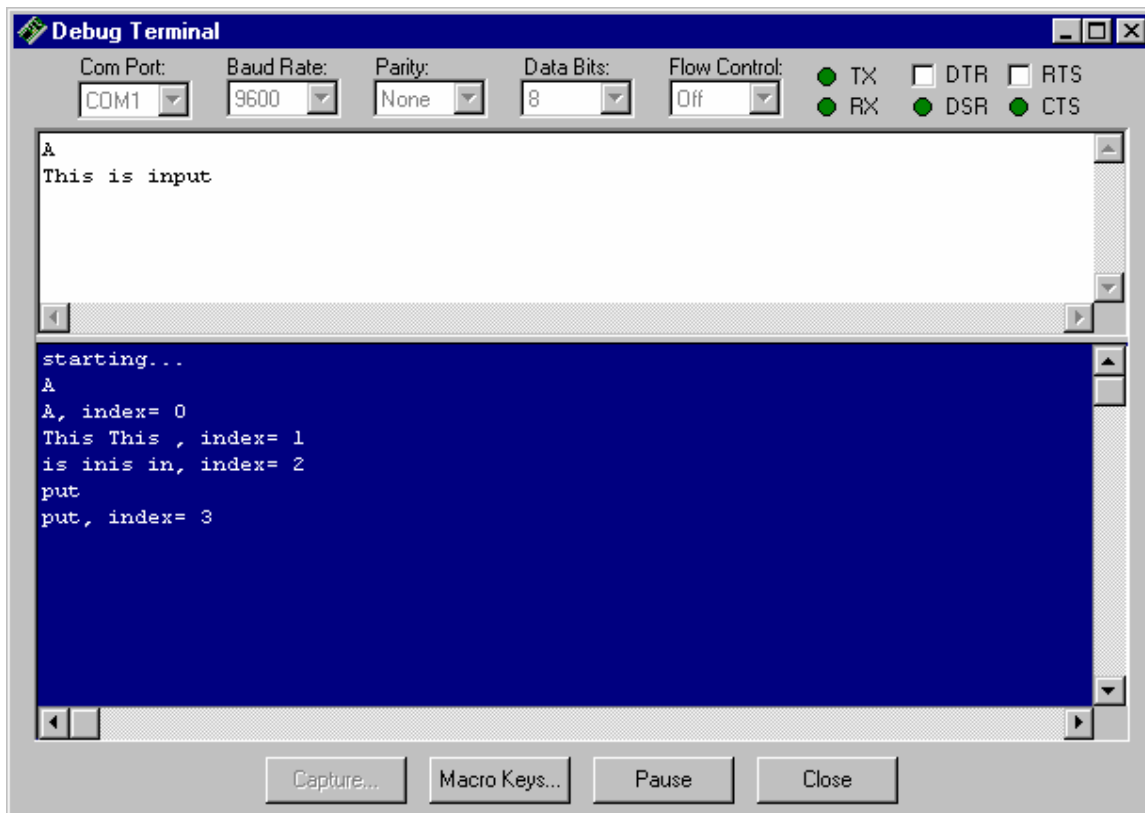

Figure 2: Debug Screen with LabVIEWSerial.bs2 running
To use the software, first download it into your BSII then access the debug screen. To transmit characters simulating a command, click on the division between the upper white pane and the lower blue pane of your debug window to expand the white “transmit” upper half of your debug window until it has both a “transmit” and “receive” pane are approximately the same size (Figure 2).
In Figure 2, the string “This is input<CR>” was typed with the result shown. The BSII received the string in (5) character groups and output each group through the SEROUT command in the program with the result shown. Remember the “space” character counts as one character in a group. The third line in the lower blue “received” window is “This This , index= 1” that reflects the echo of “This<sp>” as the characters are sent to the BSII followed by the result of the SEROUT command “This<sp>, index= 1”. The fourth fifth and sixth lines continue echoing 5 character groups including the <CR> character that terminates the (3) remaining characters “put” in the input string. The LabVIEW Serial.bs2 software